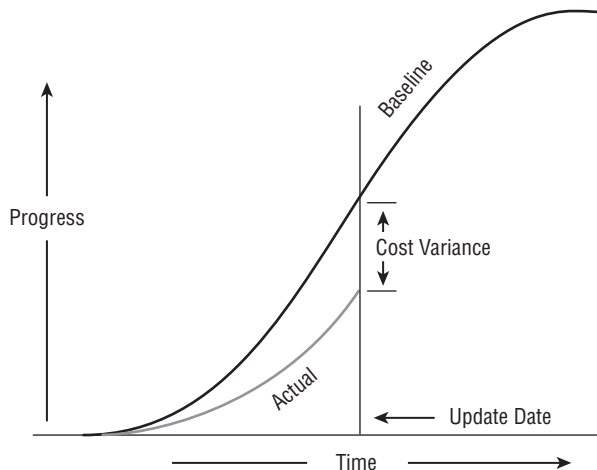
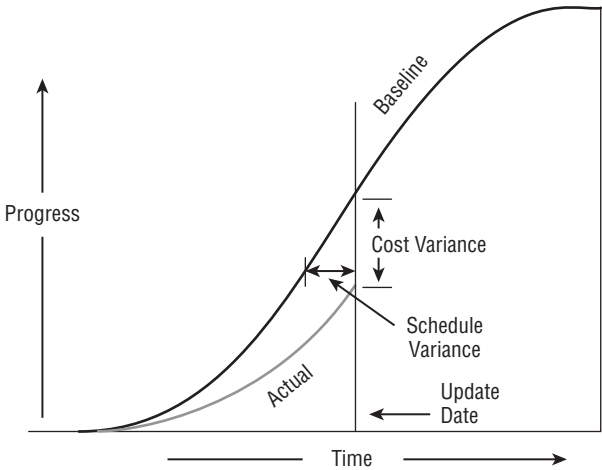
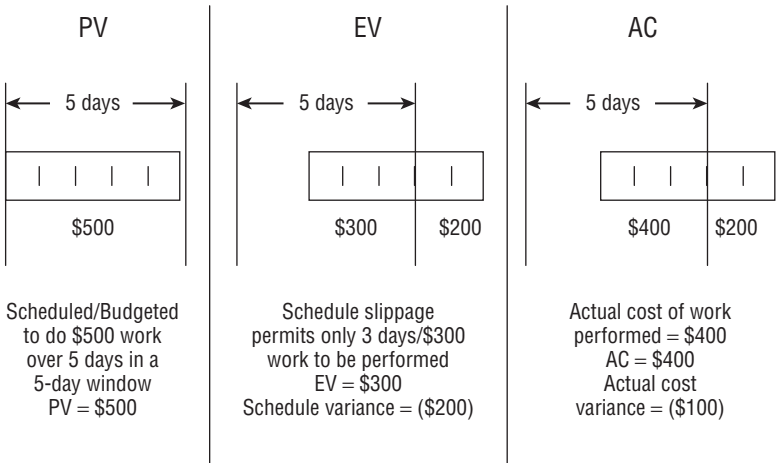
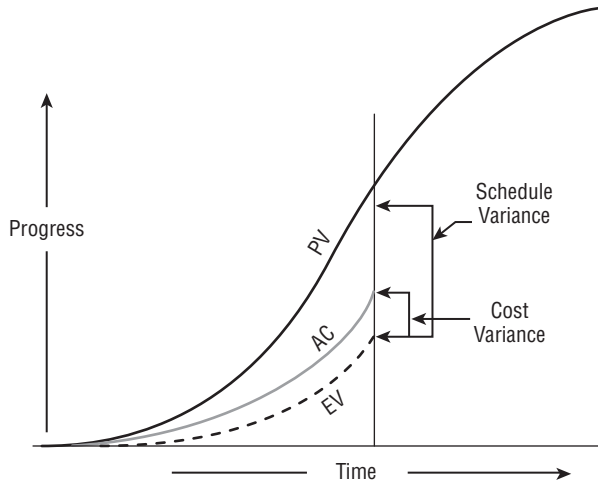

Figure 7-9: Baseline versus actual cost curve illustrating cost variance
Figure 7-10: Baseline versus actual cost illustrating schedule variance
Figure 7-11: Cost and performance indicators
Figure 7-12: The full story
By adding the actual progress-curve to the baseline curve, you can see the current status versus the planned status. Figure 7-9 shows the actual progress-curve below the planned curve. If this represented dollars, you might be tempted to assume the project is running under budget. Is that really true?
to be expended are unused. The possible schedule variance is highlighted in Figure 7-10.
To determine actual progress schedule variance, you need some additional information. EVA comprises three basic measurements: budgeted cost of work scheduled, budgeted cost of work performed, and actual cost of work performed. These measurements result in two variance values: schedule variance and cost variance. Figure 7-11 is a graphical representation of the three measurements.
The figure shows a single activity that has a five-day duration and a budget of \$500. The budget is prorated over the five days at an average daily value of \$100. The left panel of Figure 7-11 shows an initial (baseline) schedule with the activity starting on the first day of the week (Monday) and finishing at the end of the week (Friday). The budgeted \$500 value of the work is planned to be accomplished within that week. This is the planned value (PV). The center panel shows the actual work that was done. Note that the schedule slipped and work did not begin until the third day of the week. Using an average daily budget of \$100, you see that you were able to complete only \$300 of the scheduled work. This is the earned value (EV). The rightmost panel shows the actual schedule, as in the center panel, but now you see the actual dollars that were spent to accomplish the three days' work. This \$400 is the actual cost (AC).
Management might react positively to the information previously shown in Figure 7-9, but they might also be misled by such data. The full story is told by comparing both budget variance and schedule variance as shown in Figure 7-12.
To correctly interpret the data shown previously in Figure 7-10, you need to add the EV data shown in Figure 7-11 to produce Figure 7-12. Comparing the EV curve with the PV curve, you see that you have underspent because all of the work that was scheduled has not been completed. Comparing the EV curve to the AC curve also indicates that you overspent for the work that was done. Clearly, management would have been misled by Figure 7-9 had they ignored the data in Figure 7-11. Either one by itself may be telling a half-truth.